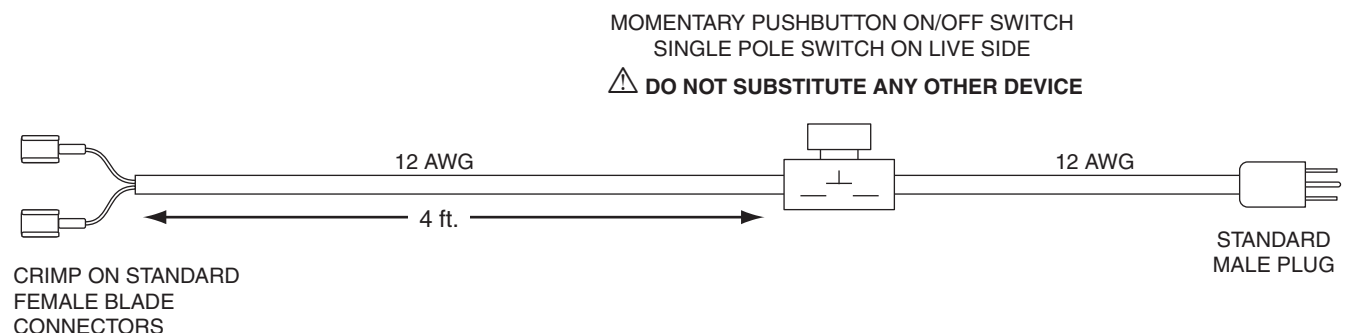
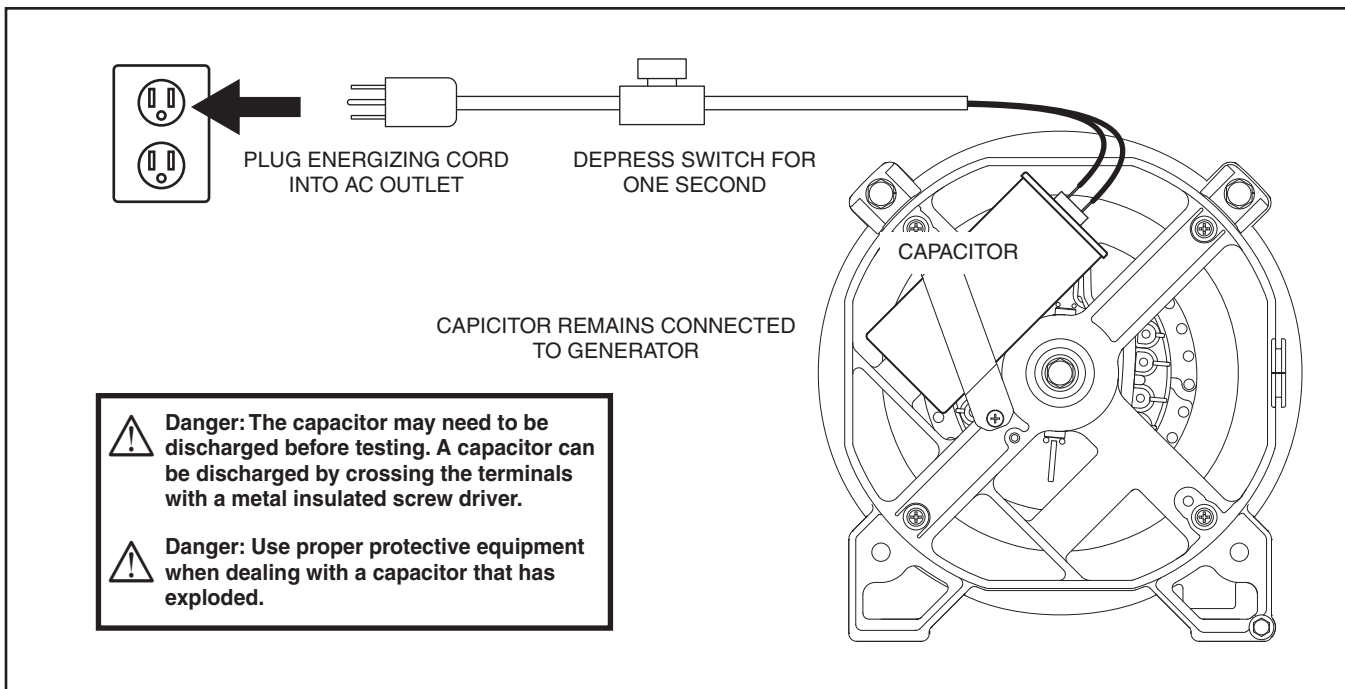

Figure 4. Construction of Energizing Cord
Figure 5. Connecting Energizing Cord
1. Construct an energizing cord that is similar to that shown in Figure 4 and connect it as shown in Figure 5 on the next page.
**Note: Refer to Figure 4 in Section 1.3 for illustration of Stator Configuration “A”. Some wire numbers will not be marked on the stator.**